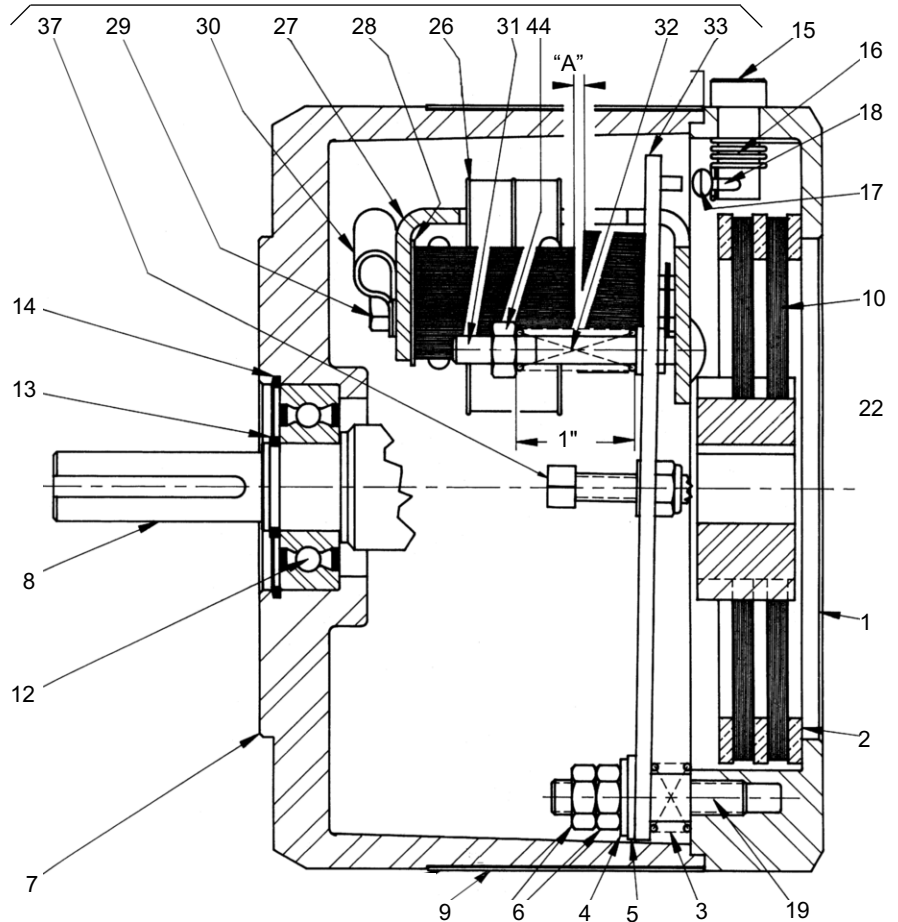

Figure 8
Numbers in parentheses refer to parts illustrated in Figures 8 thru 12.
(Refer to Figures 8 and 12.)
(Refer to Figures 8 and 12)
### MAGNET ASSEMBLY REPLACEMENT (Refer to Figures 8, 9 and 12)
### ARMATURE REPLACEMENT (Refer to Figures 8, 10 and 12)
- Reassemble to magnet bracket (Ref. No. 27) using items (Ref. No. 31), (Ref. No. 32), and (Ref. No. 44). Reassemble operator assembly to brake bracket. Set magnet air gap "A" and set torque springs (Ref. No. 32) to 1" dimension shown in Figure 8.
## MANUAL RELEASE ADJUSTMENT (Refer to Figures 8, 11 and 12)
## MANUAL RELEASE ASSEMBLY (Refer to Figures 8, 11 and 12)